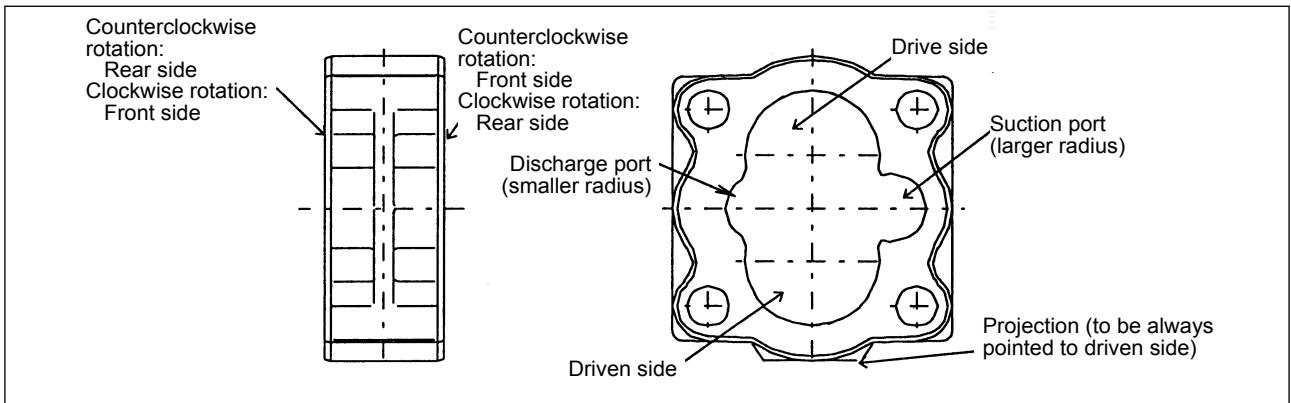

Fig. 3.390
- ④ Install the pump body half 1 (1) on the front cover (2), referring to Fig. 3.390.